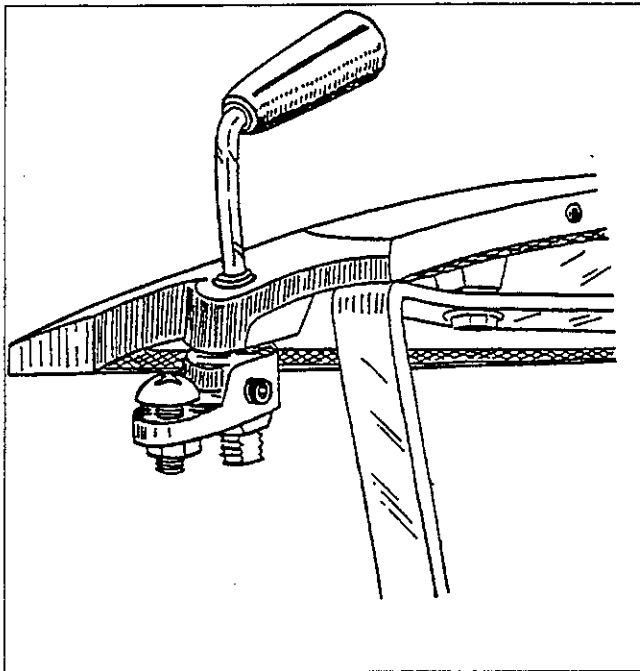

Figure 13. Ashdoor handle assembly
26. Assemble and install the ashdoor. Screw the socket, button head bolt into the stepped side of the latch pawl. (**Figure 13**). Thread the hex nut onto the end of the bolt and tighten it finger tight against the flat side of the pawl. Screw the socket set screw into the handle shaft hole of the pawl. Slide the ashdoor handle shaft through its hole in the ashdoor. Slide the pawl onto the shaft so that the pawl offset is opposite the handle curve. Ensure that the pawl is against the ashdoor and that the handle turns without binding. Tighten the set screw in the pawl. Thread the jam nut onto the handle shaft and tighten it against the pawl. Position the ashdoor between the bottom hinge panel and the bottom of the stove; slide the ashdoor hinge pin upward through the bottom hinge, through the ashdoor, and into the socket of the allen bolt holding the left leg to the